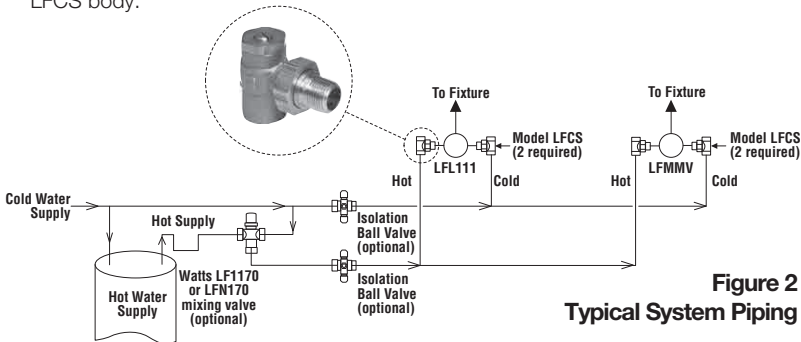

Figure 2
3. Install LFCS body on supply piping (Figure 2).